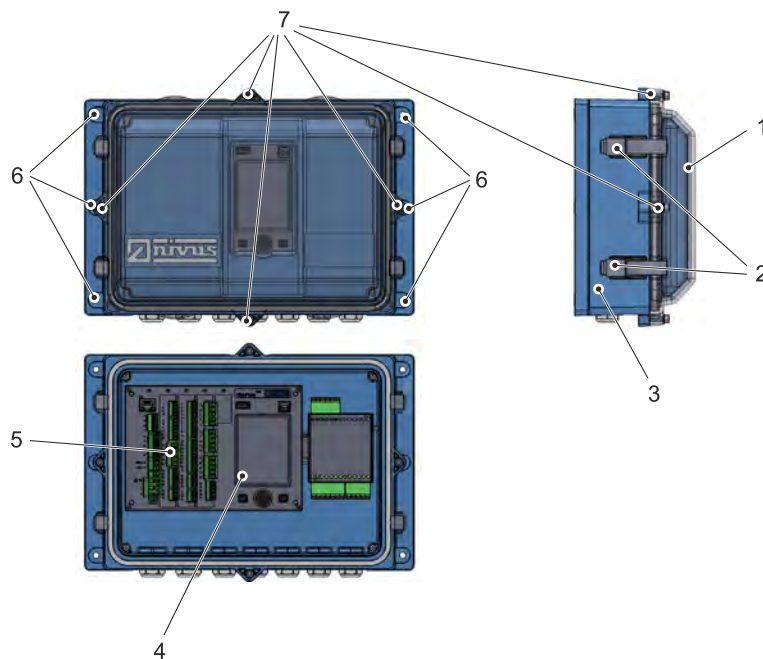

Fig. 21-4 Fastening the field enclosure
1. Fasten the field enclosure (Fig. 21-4 no 3) on both lateral brackets by using the six previously selected screws through the fastening holes (6.5 mm diameter, Fig. 21-4 no 6).
2. Remove the transport protection film from the clear view cover (Fig. 21-4 no 1) if available.
1. To remove the clear view cover (Fig. 21-4 no 1) from
Open the four lateral release clamps (Fig. 21-4 no 2) and remove the enclosure cover.
Remove the four cylinder head screws M4x25 (Fig. 21-4 no 7) including the washers, open the four lateral release clamps (Fig. 21-4 no 2) and remove the enclosure cover.
2. To remove the blue inside cover loosen the four round head screws M3.5x25 in the corners and remove the cover. Now the transmitter including the display (Fig. 21-4 no 4) and the terminal clamps (Fig. 21-4 no 5) as well as the iXT are freely accessible.